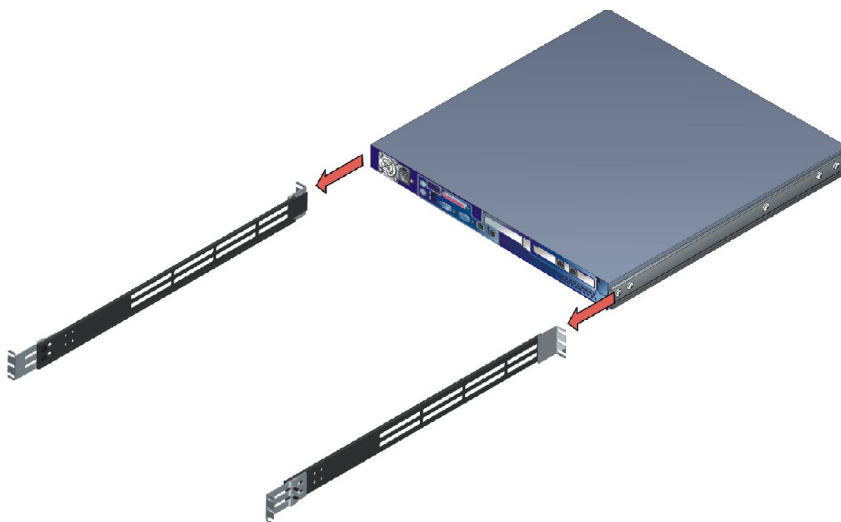

Figure 2.5. Appliance Installation
2. While fully supporting the appliance, slide the appliance and attached slide rails into the mounting brackets as shown in Figure 2-5.